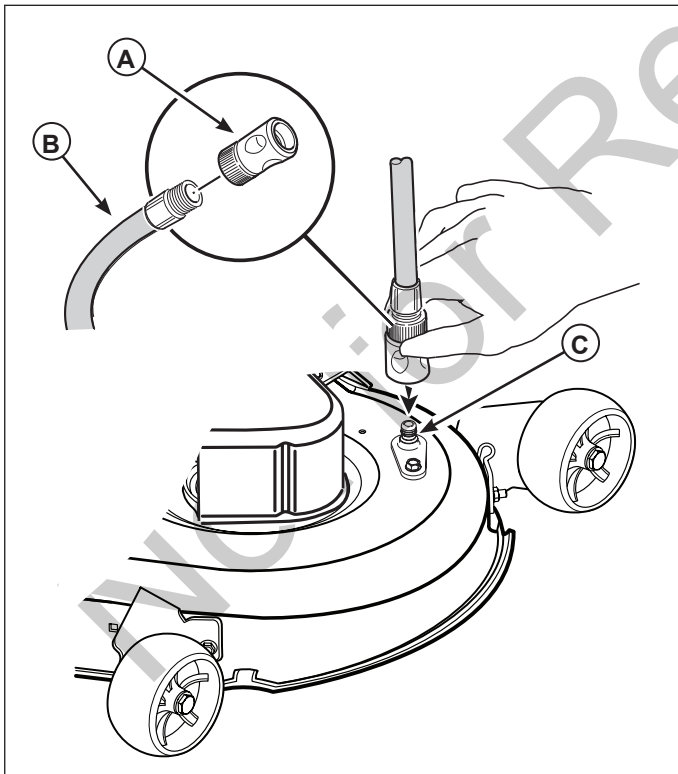

Figure 12. Mower Deck Washout Port
2. Attach the quick disconnect (A, Figure 12) to a garden hose (B), and connect to the washout port (C) on the mower deck.